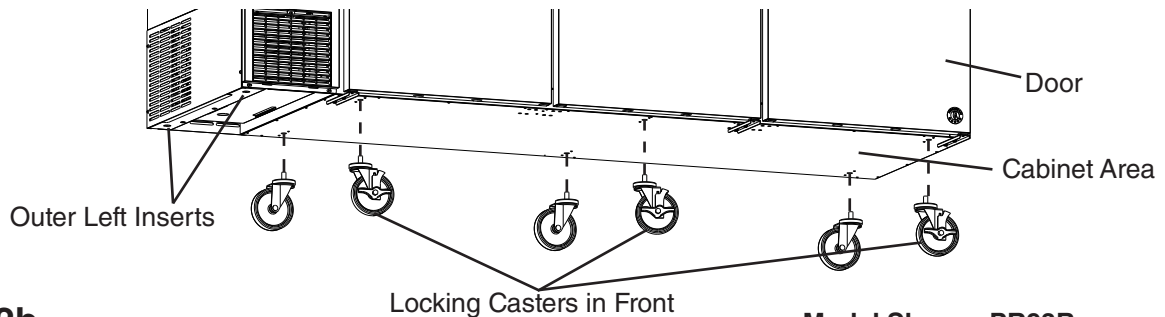

Fig. 2b
- c) **PR93B(-DX):** Attach the 6 casters under the cabinet area. See Fig. 2b. **WARNING! On PR93B(-DX) models, do not attach the casters under the compressor area in the outer left inserts.** **NOTICE! Ensure casters are completely threaded into appliance and tight.**